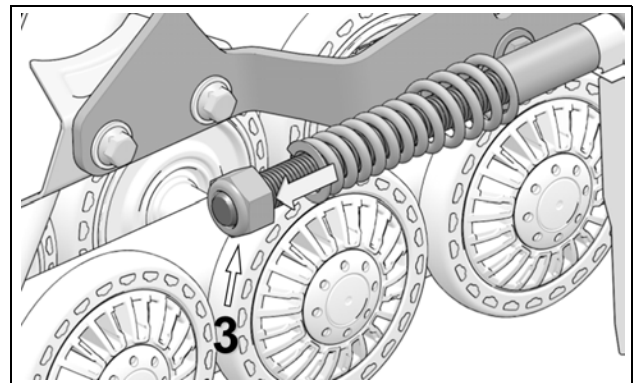

Figure 10
- Loosen nut (3) compressing stabilizing rod spring. See Figure 10.